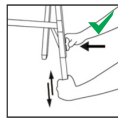

Fig. 48
- Push the locking-button with one hand and pull the leveler in the same action with the other hand to create the correct ladder leg length. (Fig. 48)